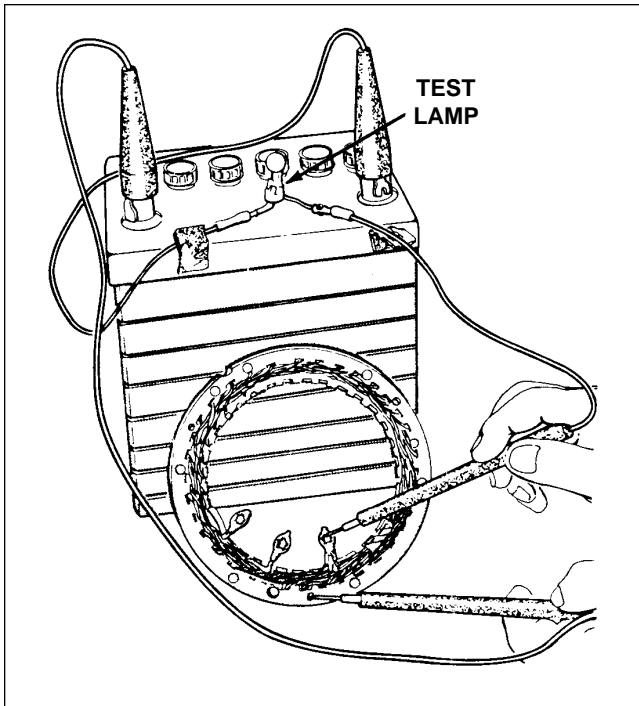

Figure 24-26. Testing Chrysler Alternator Stator
9. Testing Of Chrysler Alternator Stator (Refer to Figure 24-26.)